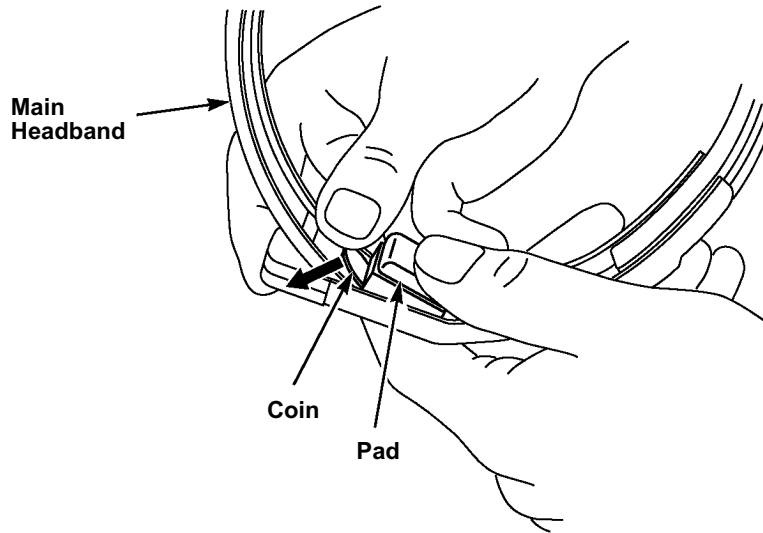

Figure 17.
1. Insert the edge of a dime between the main headband and the top headband pad and pry up to remove the pad. See Figure 17.